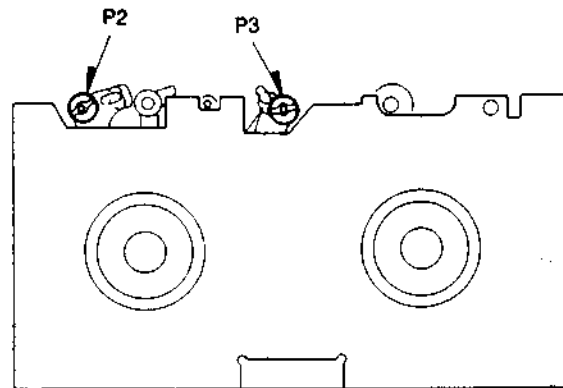

Fig. 2-11
- Place the post adjustment plate over the reel tables. Confirm that the post adjustment plate is firmly seated as shown in Fig. 2-11.